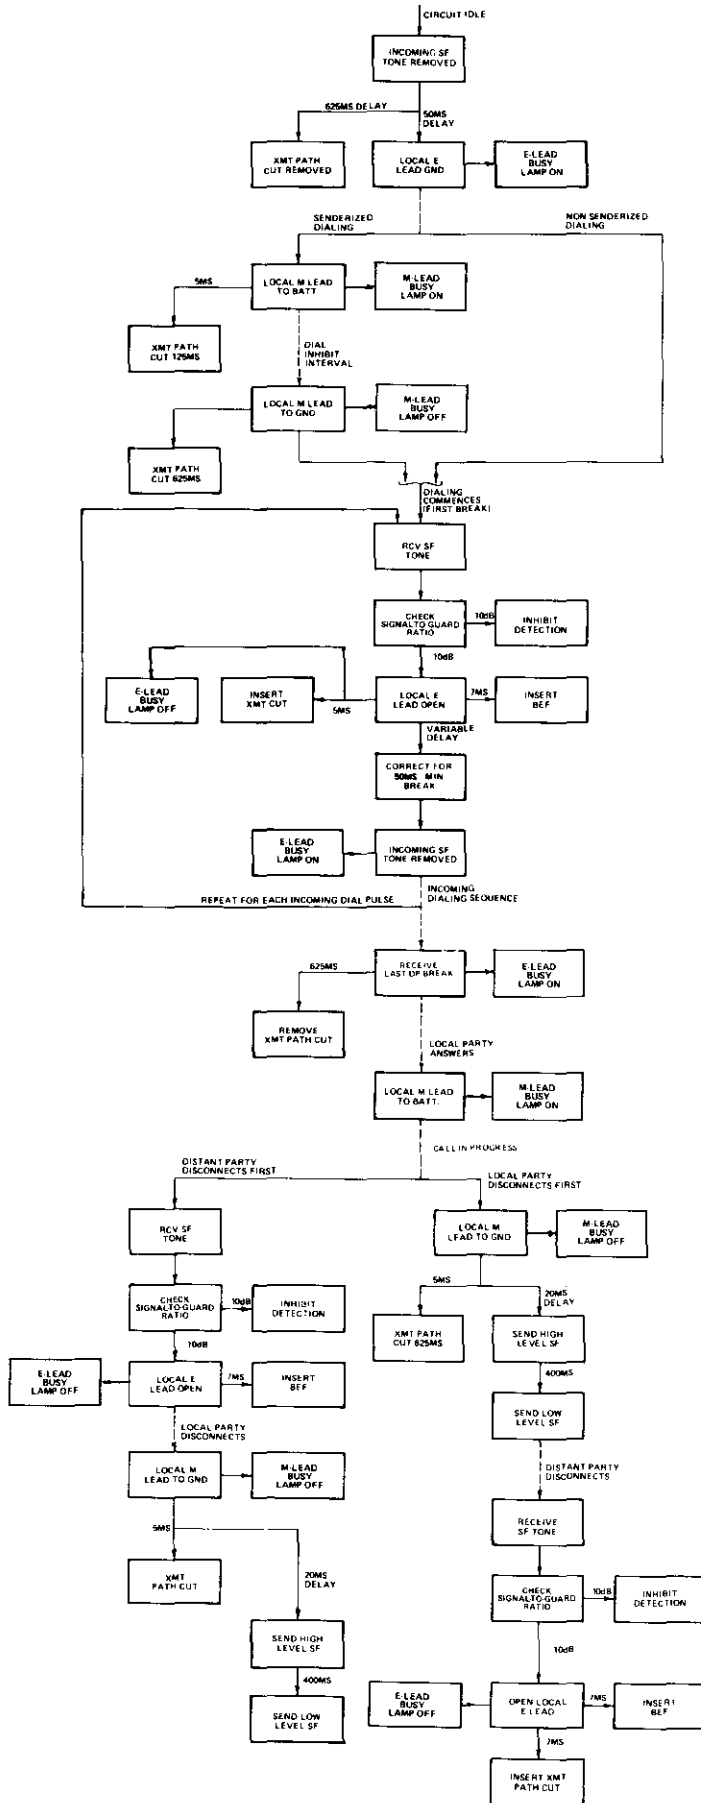

figure 8. Function sequence chart, incoming call
4.01 To provide the clearest possible understanding of the operation of the 9662 4Wire E&M SF Signaling Set module with Gain, function sequence charts (figures 8 and 9) that illustrate sequential operation of the module on incoming and outgoing calls are presented in lieu of a more conventional circuit description. Horizontal paths identify events occurring simultaneously, and vertical paths denote sequential events. Dotted lines indicate elapsed time. These charts may be used to determine whether a module is performing normally by observing the module's response and comparing it to that shown in the chart. Reference to the 9662 block diagram (section 5 of this Practice) may aid in understanding the sequence charts.